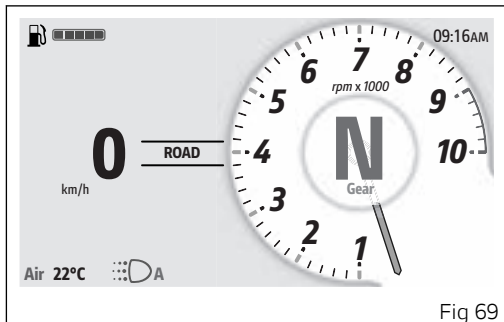

Fig 69
If the "Focus mode" has been activated via the "Display" function in the "Setting menu" (see page 149) and buttons (1), (2), or (3) are not pressed for 15 seconds, the page with only the following main information is displayed (Fig 69):